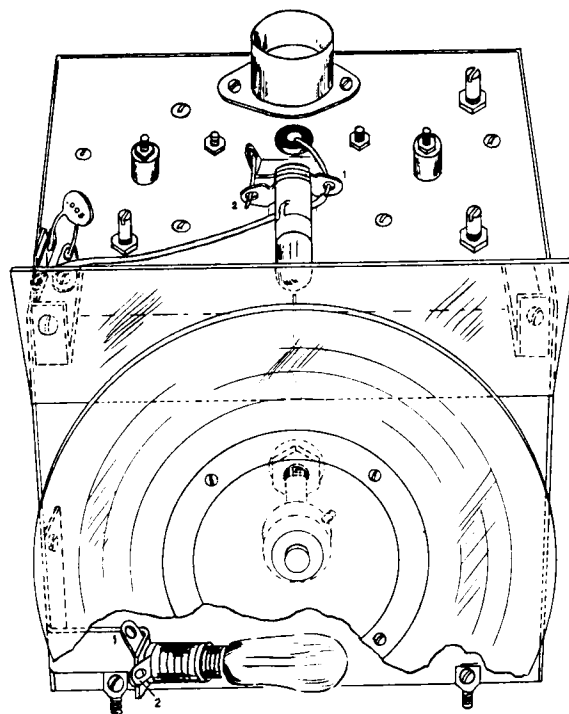

Figure 5
- () Referring to Figure 5, insert a 1 1/2" 6-32 screw through a solder lug, then through the dial light bracket and chassis top. Position the dial light and solder lug as shown. On the underside of the chassis, slip a solder lug, a 1 1/8" spacer, another solder lug and a 6-32 nut over the protruding screw. Position the solder lugs as shown in Figure 2 and tighten.
- () Mount the light shield to the top of the VFO chassis, using #6 sheet metal screws as shown in Figure 5. Include a single-lug terminal strip and solder lug on the right side as shown.
- () Connect a black wire from terminal 1 of the pilot lamp socket (S) to the insulated lug of the 1-lug terminal strip (NS).
- () Connect a .005 μ f disc ceramic capacitor from the same terminal (NS) to the adjacent solder lug (S).